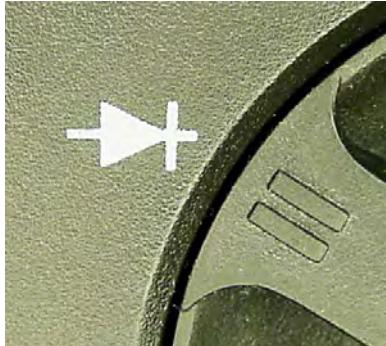

Figure 10-13. Diode setting on multimeter dial
3. Turn the multimeter dial to the diode symbol, which looks like an arrow crashing into a wall (see Figure 10-13). This indicates a component that allows electricity to flow in one direction (the arrow) but not the other direction (the wall). The diode setting is appropriate for LEDs, because the "D" in "LED" stands for diode.